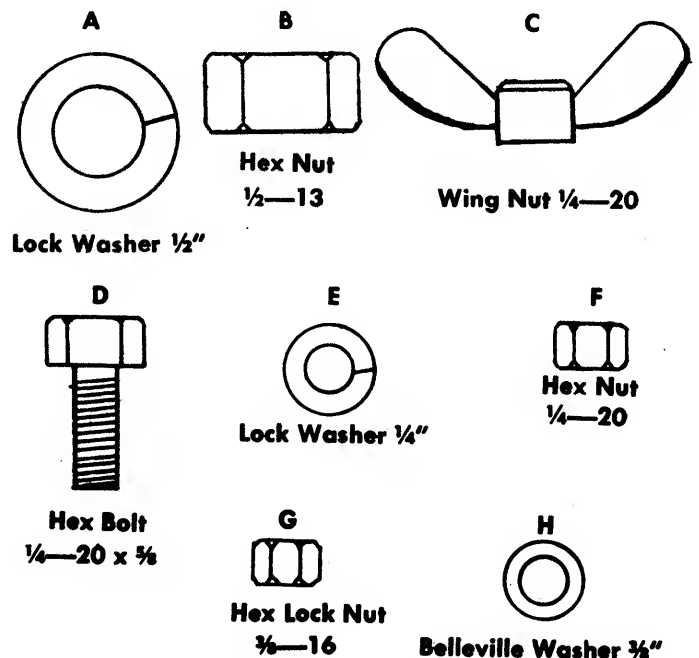

FIGURE 1. HARDWARE SUPPLIED
- B. Place seat on spring and secure with lock-washer (A) and hex nut (B). See figures 1 and 3.